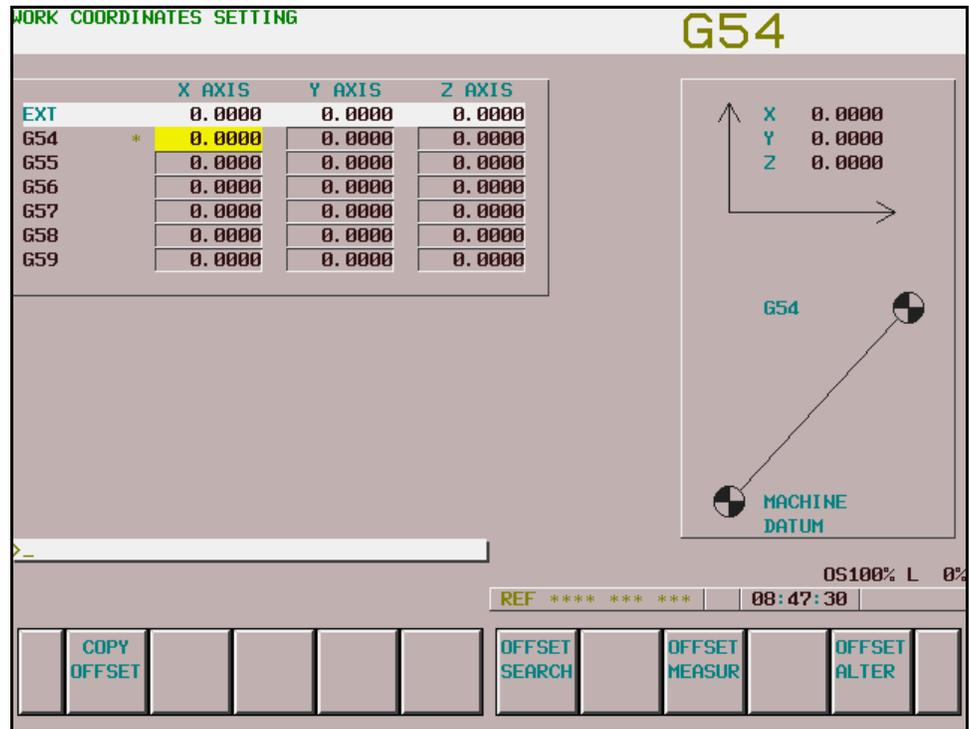

Figure 6-2: Work Coordinates Setting Screen
6. Press the OFFSET MEASURE softkey (Figure 6-2:).